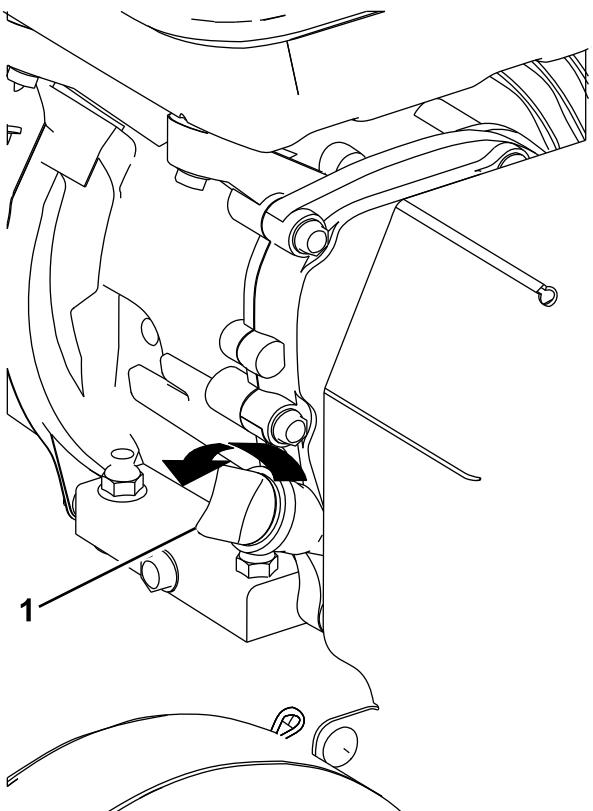

Figure 12
3. Clean around the dipstick (Figure 12) so that dirt cannot fall into the filler hole and damage the engine.
4. Unscrew the dipstick and wipe the end clean (Figure 12).
5. Insert the dipstick fully onto the filler tube. **Do not screw in.** (Figure 12).